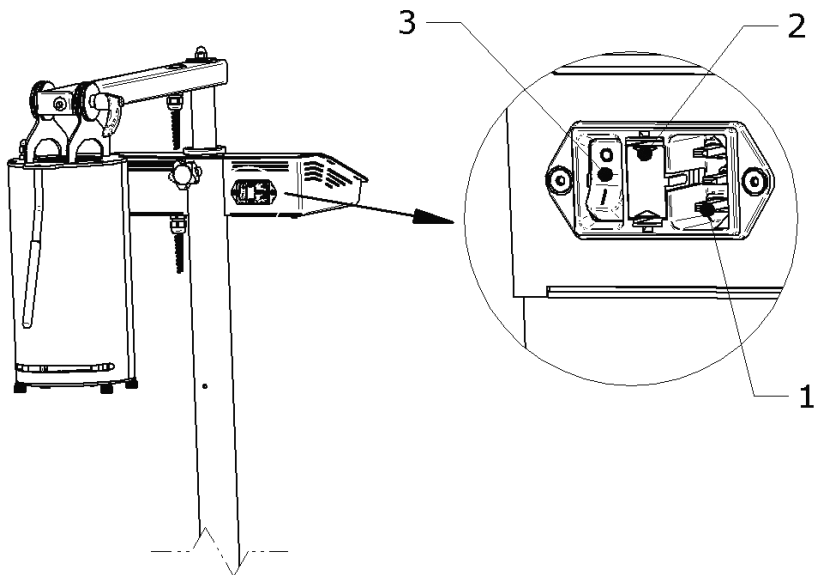

Figure 6 - Position of the power switch, socket and fuses
The power socket (fig. 6 item 1) together with the fuses (fig. 6 item 2) and the power switch (fig. 6 item 3) is located in the rear part of the control panel housing (fig. 6):